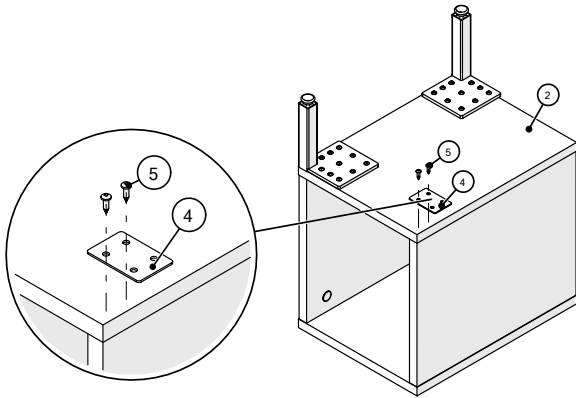

Figure 3
4. Install legs and mending plates on the side end box depending on the left or right configuration, (Figure 3).